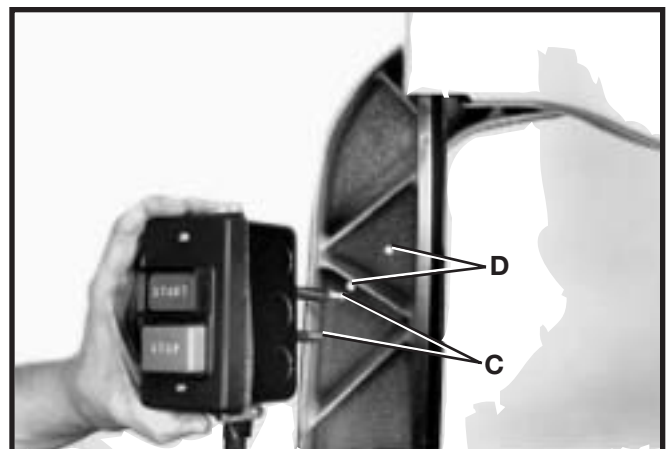

Fig. 9
4. Insert two screws (C) Fig. 9, located on back of switch box, into two holes (D) located in the band saw arm.